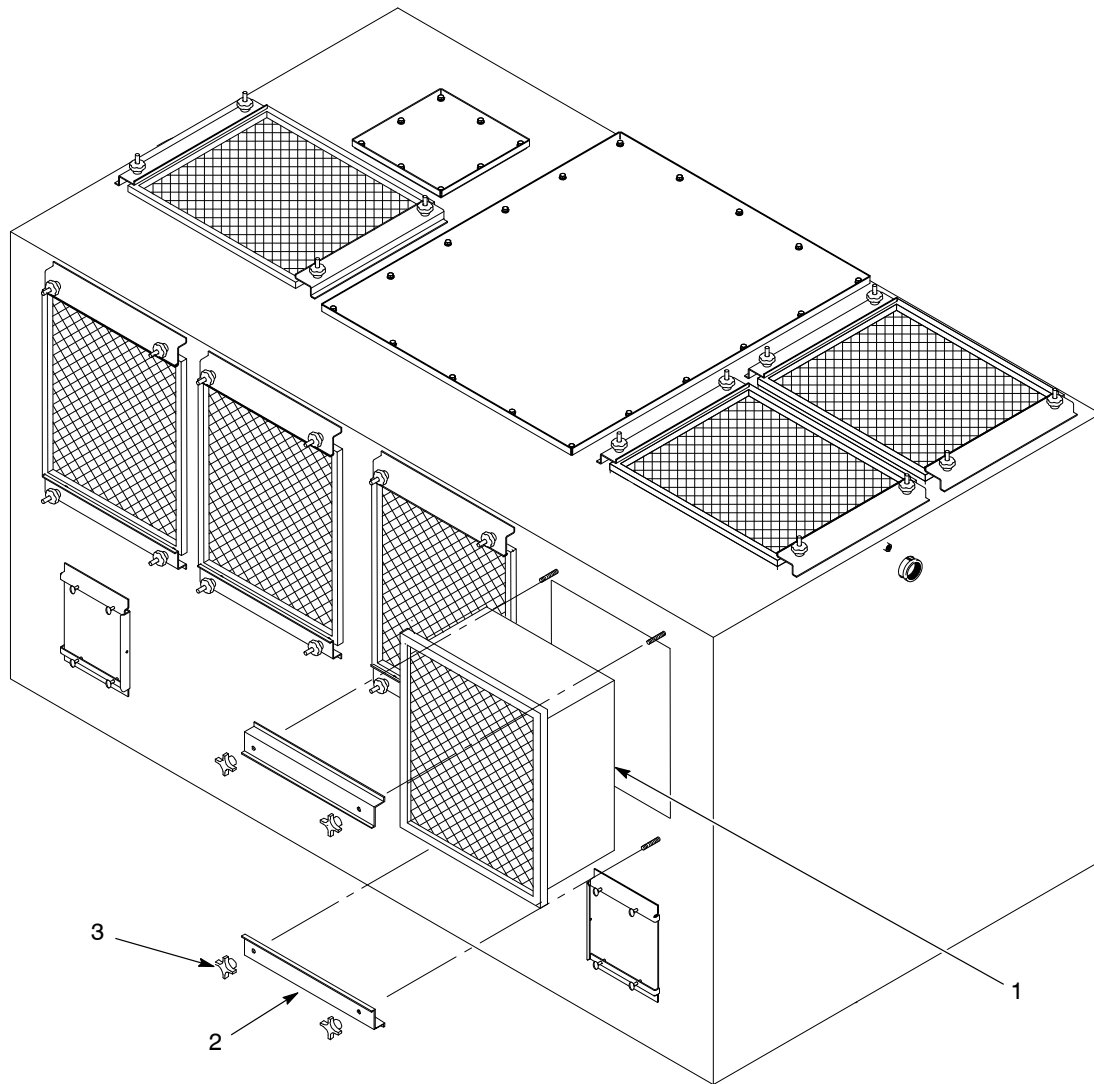

Figure 6-1 Final Filter Replacement
2. See Figure 6-1. Unscrew and remove the threaded knobs (3) and brackets (2) securing the final filters (1) to the fan section. The filters will stay in place.